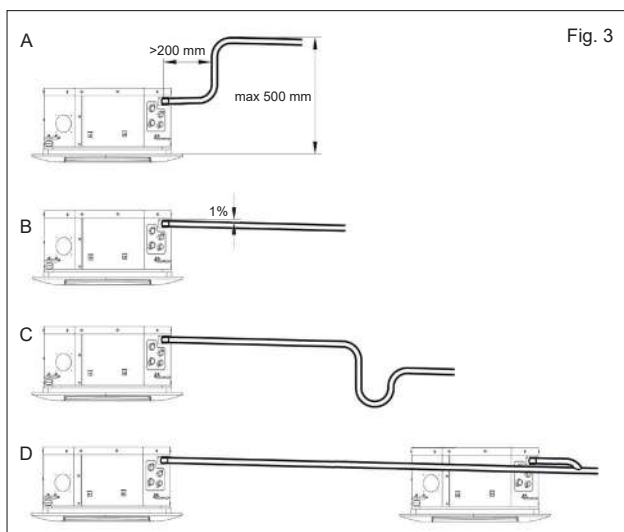

Fig. 3
- The units are equipped with a pump which is able to guarantee a rise in condensation water from the bottom of the unit (as shown in the figure) not exceeding 500 mm for the 400 and 400-4T models; and 750 mm for other models (Fig.3-A).
-For a regular discharge of condensation it is necessary that the drain hose has an inclination of 1% downwards without bottlenecks or ascending tracts (Fig.3-B).
-In addition, have a deep siphon of at least 50 mm to prevent bad smells in the environment (Fig.3-C).
a room, the condensate drainage pipe must be as in (Fig.3-D). The main manifold must be dimensioned to drain all the units at the same time.